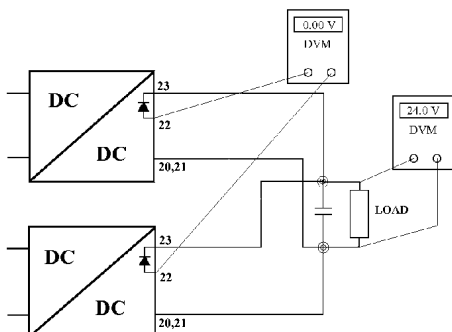

Figure 4. Adjusting output voltage
2. Measure the voltage at the load. Connect voltmeters as showed in *Figure 4*. If you have only access to one voltmeter you must move it around to make the adjustments. This will take time but is of course possible.
- i. Increase the output voltage by turning the potentiometer marked "V.ADJ" clockwise on the unit with the lowest output voltage until you reach the desired voltage at the load or until the output voltage does not increase anymore (as the unit is in current limit). To find the unit with the lowest output voltage you can measure the voltage difference before the series diode, as in *Figure 4*.
- i. Decrease the output voltage by turning the potentiometer marked "V.ADJ" counter clockwise on the unit with the highest output voltage until you reach the desired voltage at the load or until the output voltage does not decrease anymore (as the other units supply all current). To find the unit with the highest output voltage, measure the voltage difference before the series diode, as in *Figure 4*.